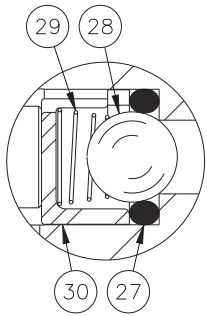

Figure 2a
7. Carefully insert piston (7) all the way into power assist housing (3). Install spring (16) into power assist housing (3) over piston (7).
8. Install new o-ring (31) on plug (32).
9. Install new o-ring (27), new ball (28), new tapered spring (29), new cage (30), and plug (32) in master cylinder housing (21). Torque plug (32) 10.9-16.3 N·m (8-12 lb·ft). **NOTE: Be sure tapered spring (29) is properly aligned and in the correct position when cage (30) is installed. Small end of tapered spring (29) must be against ball (28). See Figure 2a.**
10. Install new gasket (23), filler cap (24), and new o-ring (17) on master cylinder housing (21). Torque filler plug 67.8-81.4 N·m (50-60 lb·ft).
11. Install new seat (20), new check valve (19), and spring (18) into master cylinder housing (21).
12. Carefully assemble master cylinder section to power assist section using two flat washers (25) and two cap screws (26). Torque 29.8-33.9 N·m (22-25 lb·ft).